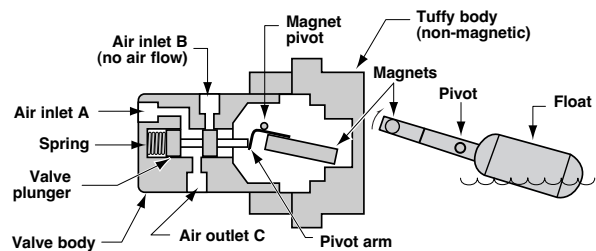
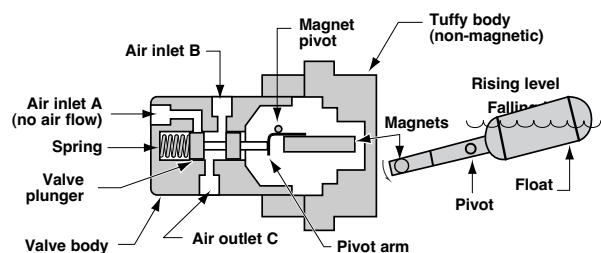

Figure 2: Low level operation – direct acting
Figure 3: High level operation – direct acting
**Figures 2 and 3** illustrate the simple Magnetrol operating principle. Switching action is obtained through the use of a magnet attached to a float and a switching mechanism. These two basic component assemblies are separated by a non-magnetic, pressure tight barrier.
At a "low operating level" of liquid in a tank or vessel (refer to **Figure 2**), the float moves the magnet upward and into the field of the switch mechanism magnet. As a result, the magnets repel causing the pivot arm and valve plunger to move so that air is allowed to pass from air inlet A to air outlet C. As liquid level rises, the float moves the magnet downward until the switch mechanism magnet reverses position, allowing the valve plunger to move so that air is allowed to pass from air inlet B to air outlet C (refer to **Figure 3**).